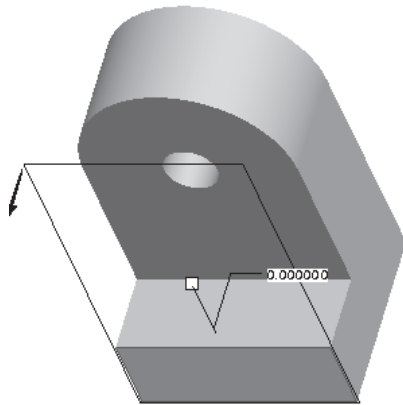

Figure 5-62 The selected face and the arrow showing the positive direction of datum plane
2. Using the left mouse button, select the front face of the second feature highlighted in Figure 5-62. The boundary of the selected front face is highlighted in red color.